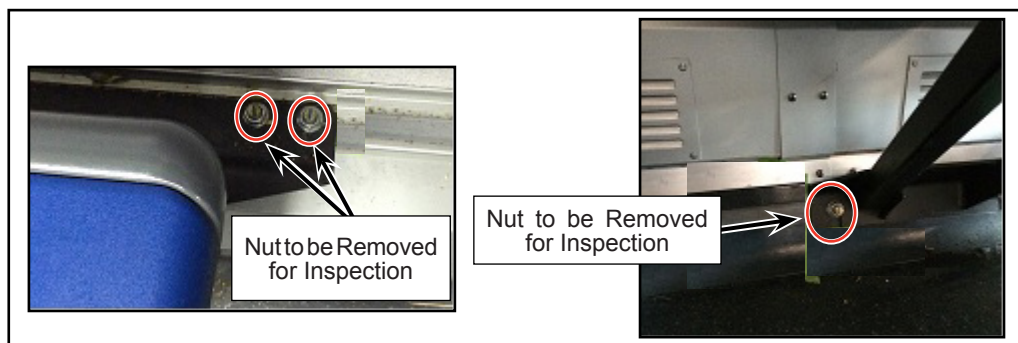

Figure 4 - Removal of Nuts for Inspection
- 1.6.1. Remove and inspect each nut attached to upper and lower seat bracket (see Figure 4). If hardware are rusted or stretched or having damaged threads proceed to LEVEL 2 (step 2.17 onwards), else continue with following steps.